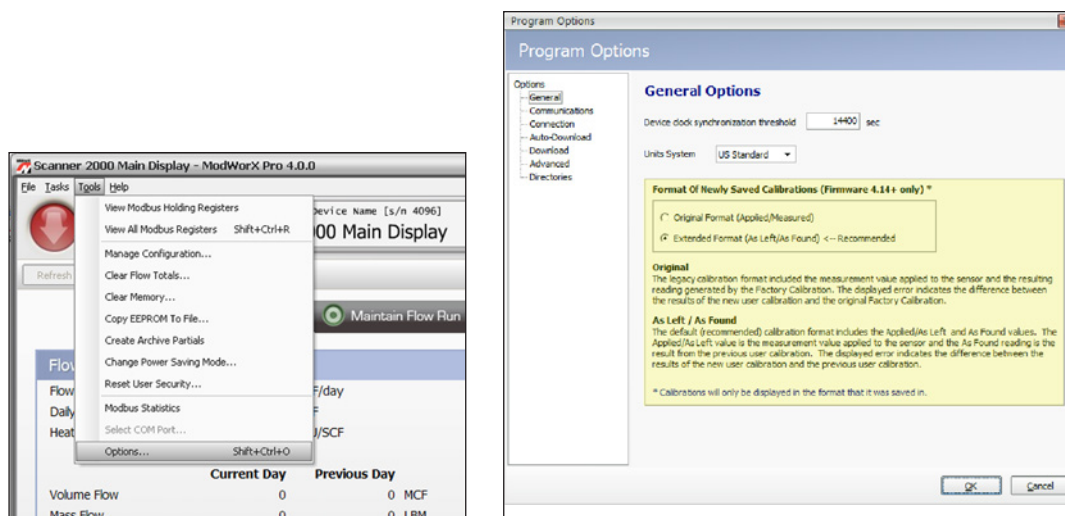

Figure A.18
1. Click **Tools>Options** in the task bar (Figure A.18, page A-18).